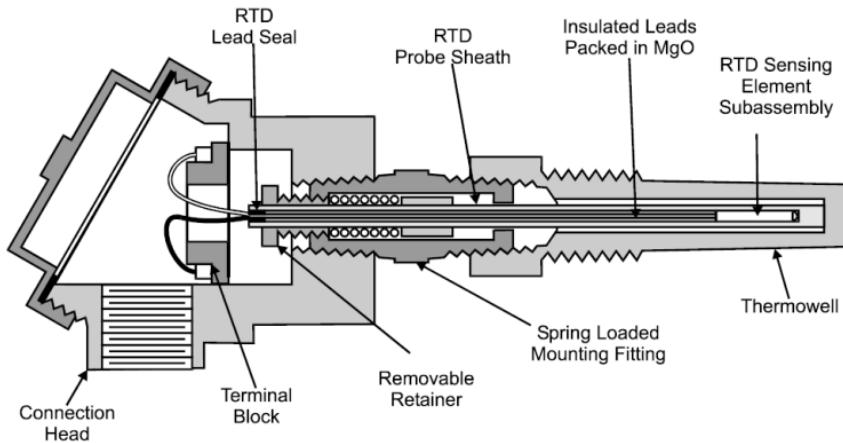

Figure 6.6: Resistance Temperature Detector
- 6-38 **Resistance detectors.** For large motor windings, the resistance temperature detector, shown in Figure 6.6, is the most common thermal protective device. The instrument used with this detector is a temperature indicator, not just a switch. It can therefore inform an operator of the actual winding temperature at any time. The probe of the resistance detector is a length of precisely calibrated resistance wire enclosed in a protective shield. It fits through a hole in the motor case, so that it measures the temperature of the motor windings.